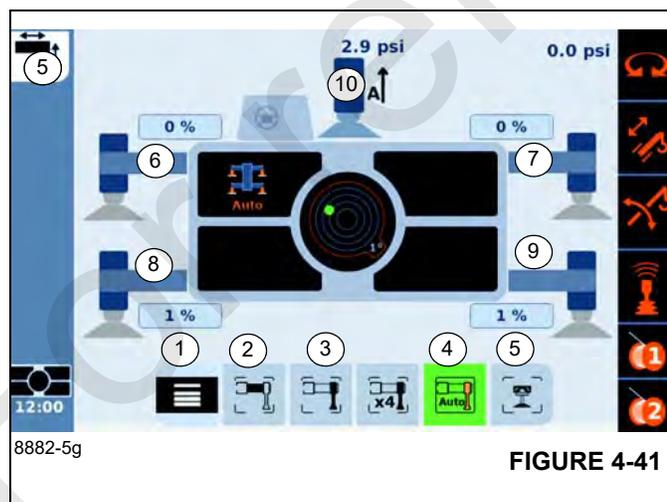

FIGURE 4-41
Select the appropriate icon on the Outrigger Control Display to perform the function as noted in the table below (Figure 4-41).
Exiting the Menu:	Select symbol (1), (Figure 4-41) and confirm
Outrigger Beam:	Select symbol (2), (Figure 4-41) and confirm
Outrigger Jack:	Select symbol (3), (Figure 4-41) and confirm
Auto Level	Select symbol (4), (Figure 4-41) and confirm
Center Front Stabilizer (CFS)	Select symbol (5), (Figure 4-41) and confirm
Front Left	Select symbol (6), (Figure 4-41) and confirm
Front Right	Select symbol (7), (Figure 4-41) and confirm
Rear Left	Select symbol (8), (Figure 4-41) and confirm
Rear Right	Select symbol (9), (Figure 4-41) and confirm
Center Front	Select symbol (10), (Figure 4-41) and confirm